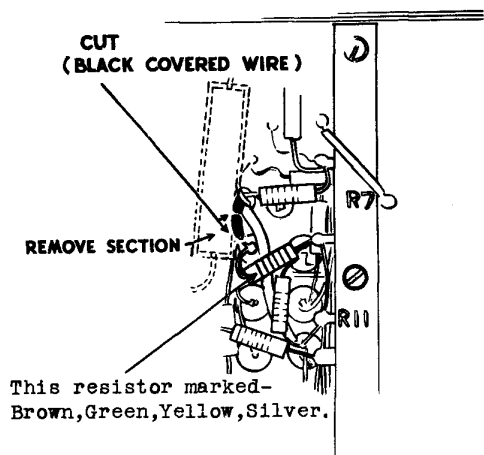

FIG. 4 - RECEIVER - TEMPORARY
19. See Table 2. When this crystal valve becomes unserviceable, and so makes the station inoperative, the set may be made usable again by the expedient depicted in Fig. 4. It consists of eliminating MR1 by cutting the lead as indicated in the figure. This will enable the set to be used until it is possible to have a new crystal valve inserted.